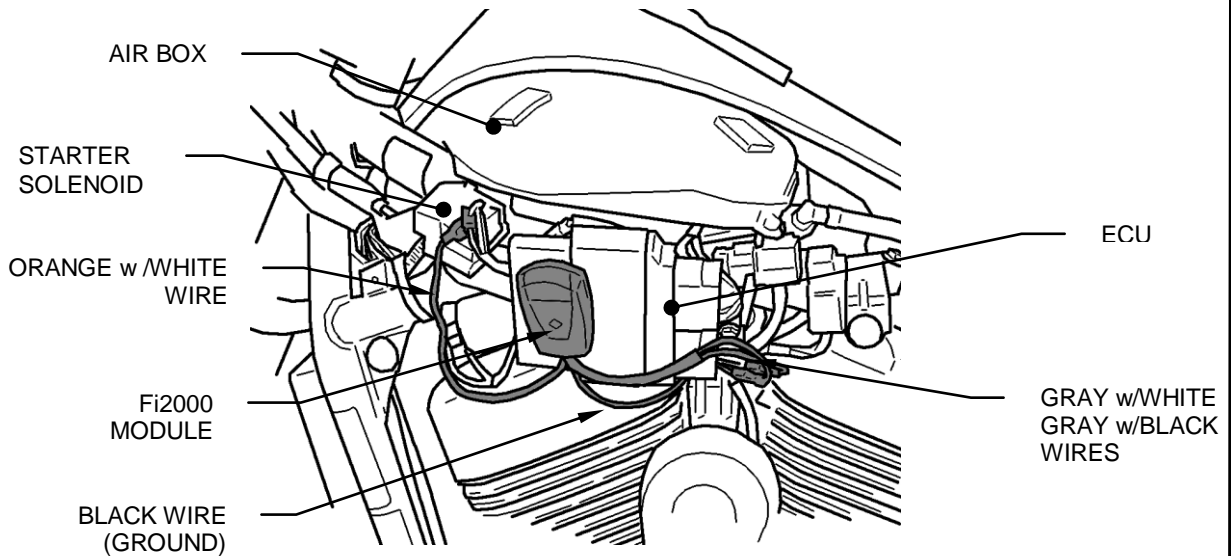

FIGURE 1
6. Locate the Orange w/White wire coming from the starter solenoid (see Figure 1) and attach a t-tap to that wire. **Note:** Make sure not to attach the t-tap connectors closer than 1" to any connector.
7. Locate the Gray w/Black stripe wire and the Gray w/White stripe wire on the lower ECU plug (see Figure 1). Put a t-tap on each wire. **Note:** Make sure not to attach the t-tap connectors closer than 1" to the ECU connector.
8. Attach the black wire from the Fi2000 to the rear M10 bolt holding the horn bracket to the frame. Retighten that bolt and then Velcro the Fi2000 to the flat surface of the ECU (see Figure 1).
11. Before re-installing the side cover, verify your connections. Remove the door from the Fi2000 box to expose the LED's. Verify the wire connections by (1) turning the ignition on, prior to starting, and see if all three LED's are on steady. They will all light up for a few seconds, and then go off. This is correct. If there are no lights visible, make sure the side stand (kickstand) is up, bike is in neutral, clutch is in and handle bar engine switch is set to run. If there is no light, either the ground connection (BLACK wire) is not complete or, (more likely) the ORANGE w/WHITE wire connection is incorrect. Either the wrong wire has been tapped or proper contact between the t-tap connector and wire has not been made. -- (Continued to next page!)